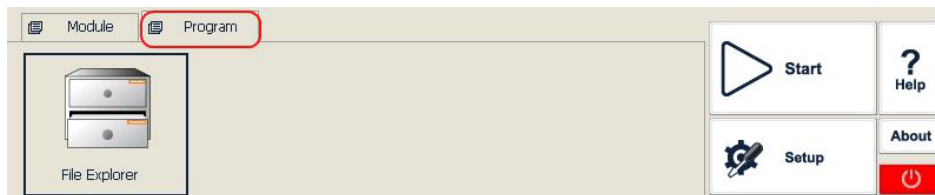

Fig 13.1 File explorer
- 1) A. In the PRO-6350 main interface, click {Program} label and click [File Explorer] icon as shown in Fig 13.1: